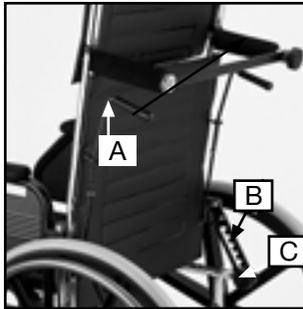

Fig. 8
3.2 Respaldos reclinables (Mod. 4001, 4021, 4031, 4041, 3013, 3018). (Fig. 8, pag 3)